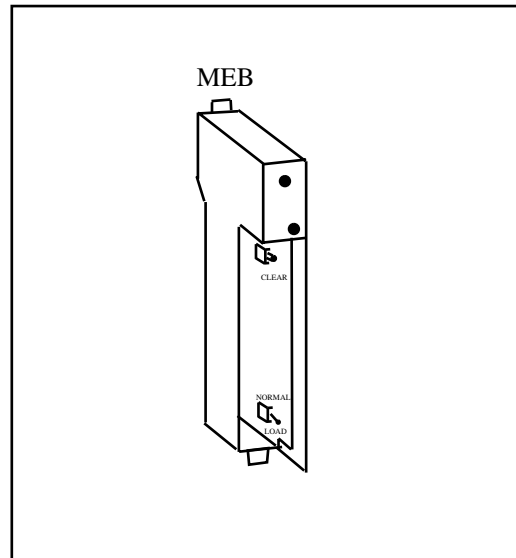

Figure 24-18 MEB Firmware Load Switch
- 3 Locate the Load/Normal toggle switch on the back of the MEB. (See Figure 24-18) Move this switch to the LOAD position.